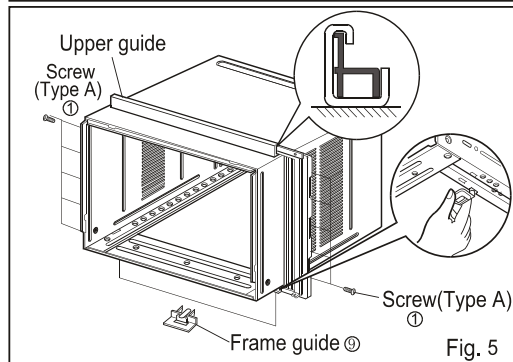

Fig. 5
7. Fasten the curtains to the unit with 8 Type A screws. (Fig.5)